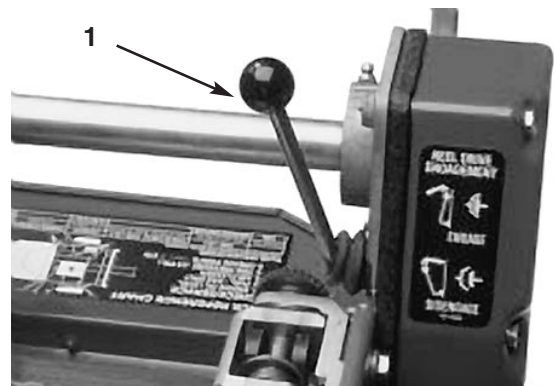

Fig. 14
**Reel Drive Engagement Lever** (Fig. 14)—Located on the right front corner of the machine. The lever has two positions: ENGAGE and DISENGAGE. Pull up on the lever to engage the reel or push down on the lever to disengage the reel.